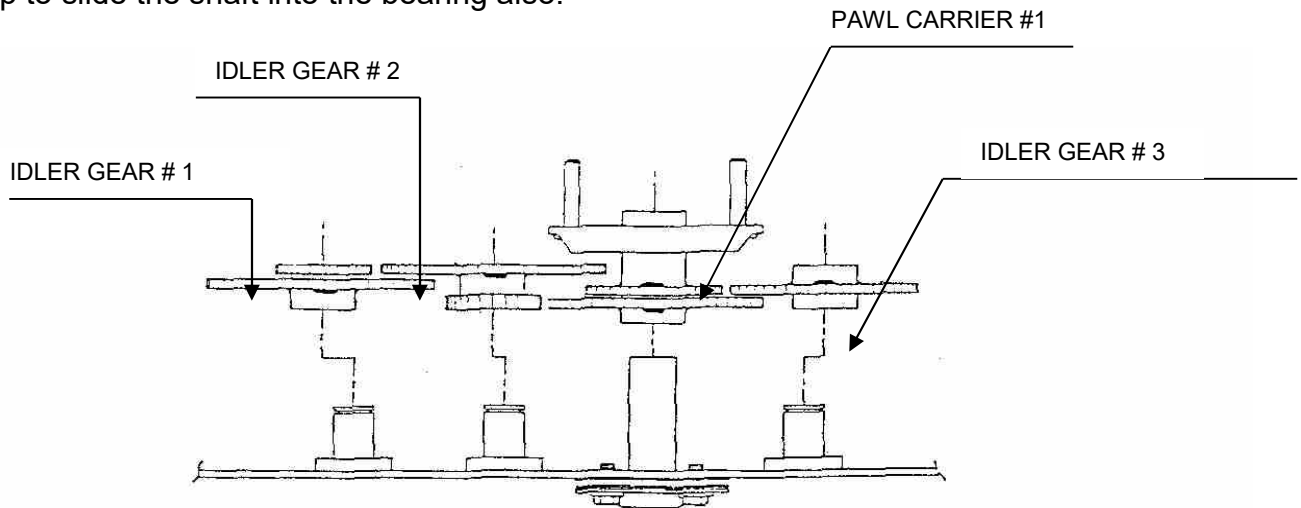

FIGURE 7
2. Pawl carriers 2, 3, 4 and 5 can be reassembled by replacing them over the nylon bearing in the same way they came off. Pawl carrier 1 and idler gears 1, 2, and 3 must be assembled at the same time as shown in figure 7. NOTE: All idler gear assemblies are assembled with the weld facing the cover.